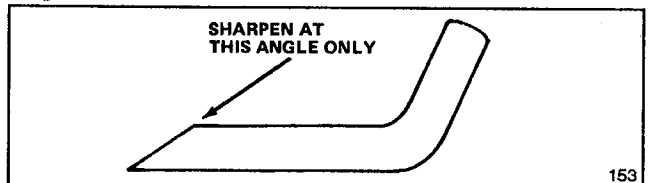

Figure 20
6. **SHARPENING BLADE**—Using a file, sharpen top side of blade and maintain original cutting angle (Fig. 20). The blade will remain balanced if same amount of material is removed from both cutting edges.